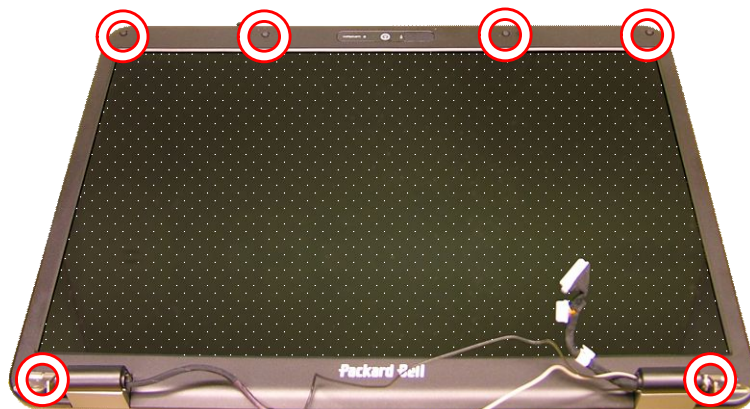

Fig. 36 Location of LCD cover screws.
2. Removed the 6 screws that became accessible when removing the covers (see Fig. 36).